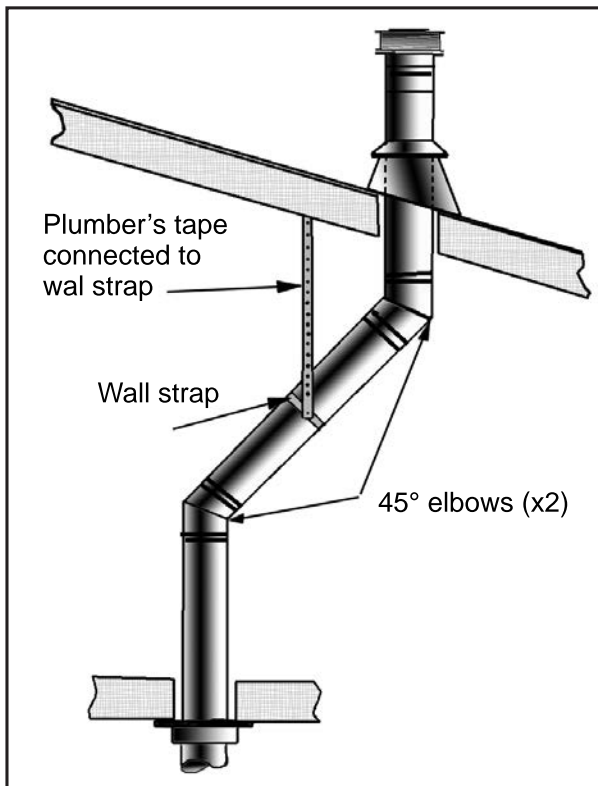
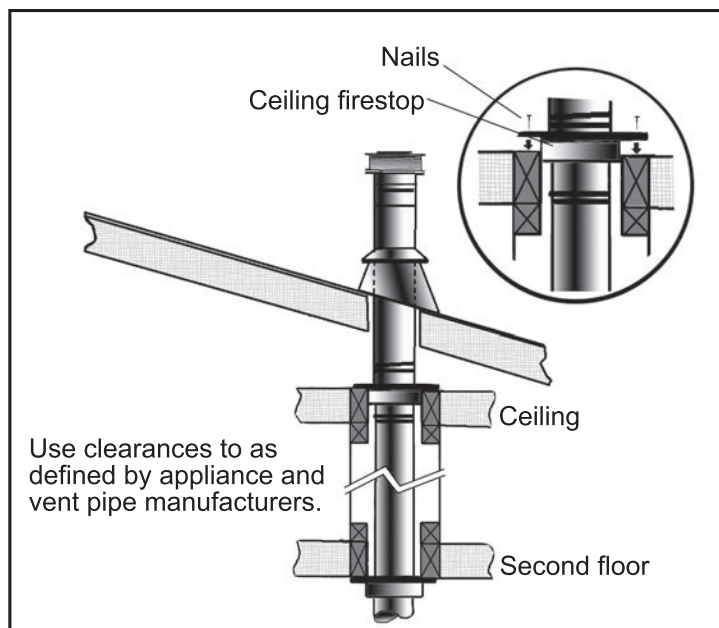

Figure 37: Use of Wall Straps.
Figure 38: Multi-Story Vent Pipe Installation
- Step 8.** Continue to add pipe sections until the height of the vent cap meets the minimum code requirements. Refer to Figure 37 and Table 7. Note that for steep roof pitches, the vent height must be increased. In high wind conditions, nearby trees, adjoining roof lines, steep pitched roofs, and other similar factors can result in poor draft, or down drafting. In these cases, increasing the vent height may solve the problem.
Table 7: Minimum 'H' for Figure 37.
- (1) If an offset is necessary in the attic to avoid obstructions, it is important to support the vent pipe every **3' (914 mm)**, to avoid excessive stress on the elbows, and possible separation. Wall straps are available for this purpose (see Figure 37).
- (2) When ever possible, use 45° degree elbows instead of 90° degree elbows. The 45° degree elbow offers less restriction to the flow of flue gases and intake air.
- (3) For multi story installations; a ceiling firestop is required at the second floor, and any subsequent floors (see Figure 38). The opening should be framed to **10" (254 mm) x 10" (254 mm)** inside dimensions, in the same manner as shown in Figure 29.
The placement of the logs is not arbitrary. If they are positioned incorrectly, the flames can be “pinched” and will not burn correctly. All of the logs come with either a notch or ledge to make alignment easier. Using the pictures provided, carefully set the logs in place (see Figures 37 through 41).